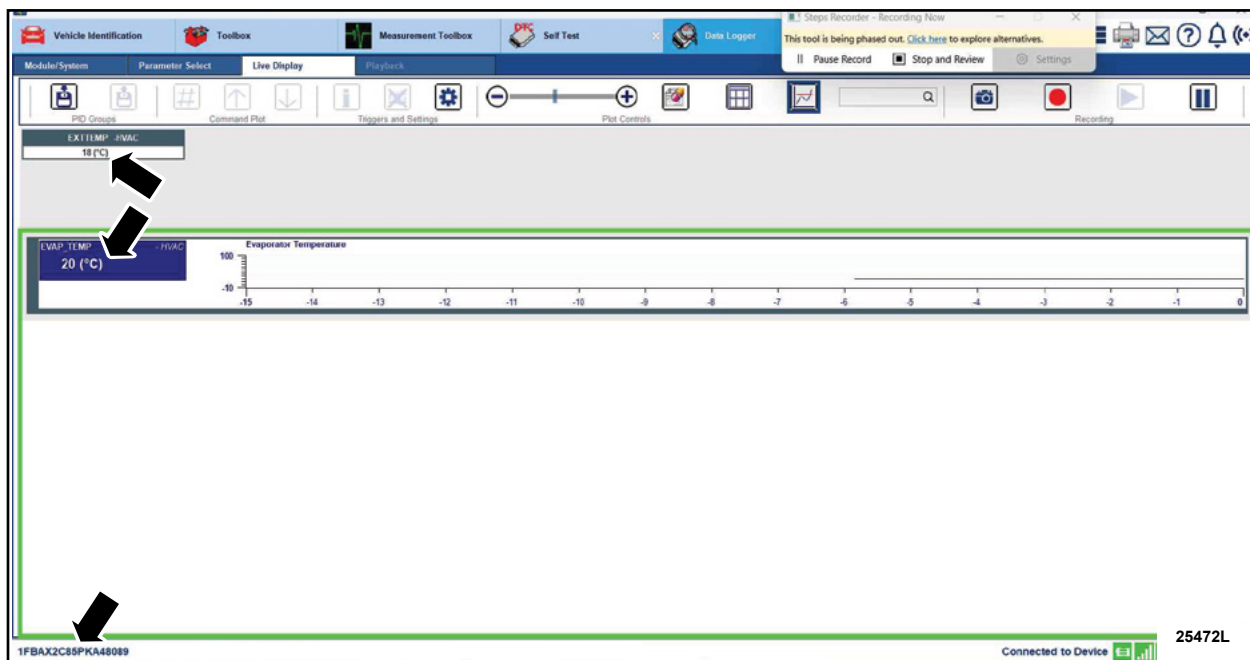

FIGURE 12
21. Record the evaporator and external temperature on the repair order. See Figure 12. Compare the external temperature and the evaporator temperature to the chart shown below. If the evaporator temperature is at or below the target temperature shown, the vehicle passes inspection.